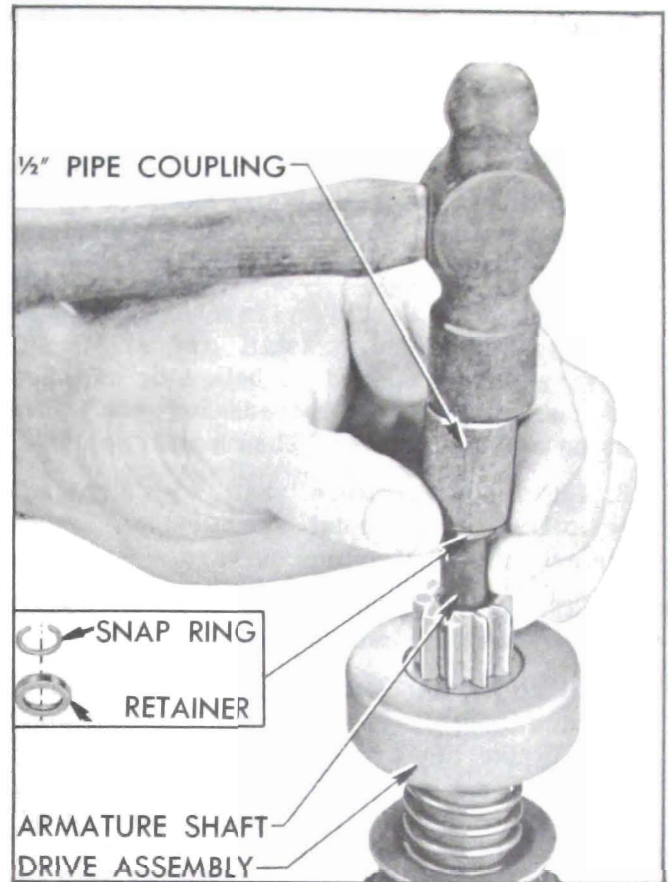

Figure 10-26—Removing Pinion Stop Retainer and Snap Ring
5. To remove drive assembly from armature, place a metal cylinder of proper size (1/2" pipe coupling will do) over end of shaft to bear against the pinion stop retainer. Tap retainer toward armature to uncover snap ring. See Figure 10-26. Remove snap ring from groove in shaft, then slide retainer and pinion drive assembly from shaft. Remove assist spring.